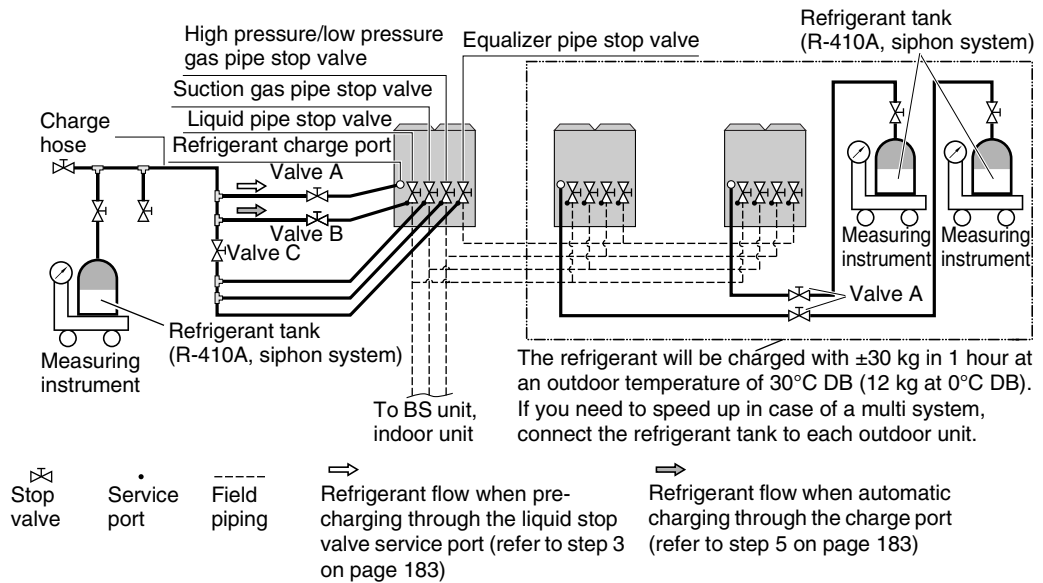

figure 24
- Open valve B (the valves A and C, the liquid pipe, the suction gas pipe, the high pressure/low pressure gas pipe and the equalizer pipe stop valves must be left closed) and charge the refrigerant in liquid form via the liquid pipe stop valve service port. (See figure 24)
- After pre-charging, perform the refrigerant charge operation as shown below and charge the remaining refrigerant of the additional charging amount through valve A. (See figure 24)
For a multi outdoor unit system, it is not required to connect all charge ports to a refrigerant tank. The refrigerant will be charged with ± 30 kg in 1 hour time at an outdoor temperature of 30°C DB or with ± 12 kg at an outdoor temperature of 0°C DB . If you need to speed up in case of a multiple outdoor system, connect the refrigerant tanks to each outdoor unit as shown in figure 24.